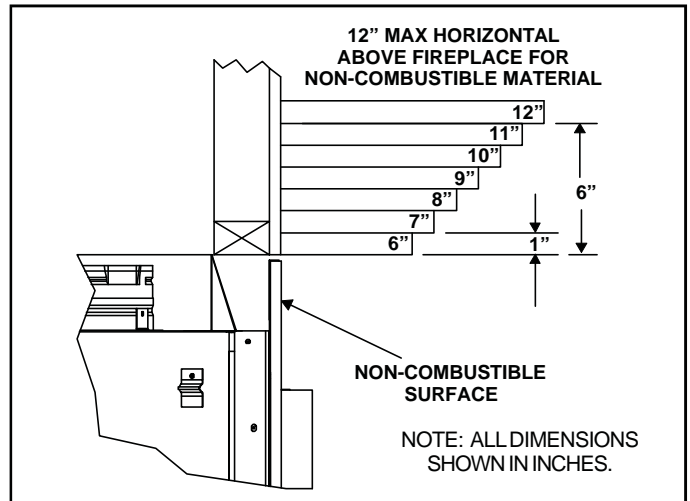

**Figure 27. Intermittent Pilot Ignition (IPI) Wiring Diagram**
***See Figure 27 for electrical diagram. Disregard pages 17, 18 and 19 of User's Manual.***